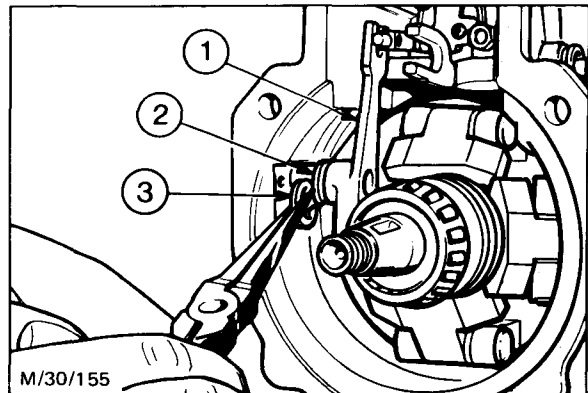

Fig. 77 - Rocking Lever Installation (Naturally Aspirated Pumps)
5. Naturally aspirated pumps - Fit the thrust washer over the end of the pivot shaft as it protrudes into the housing then push the shaft through the rocking lever pivot hole and fully home. Fit a new 'E' clip to the pivot shaft between the thrust washer and housing (Fig. 77).